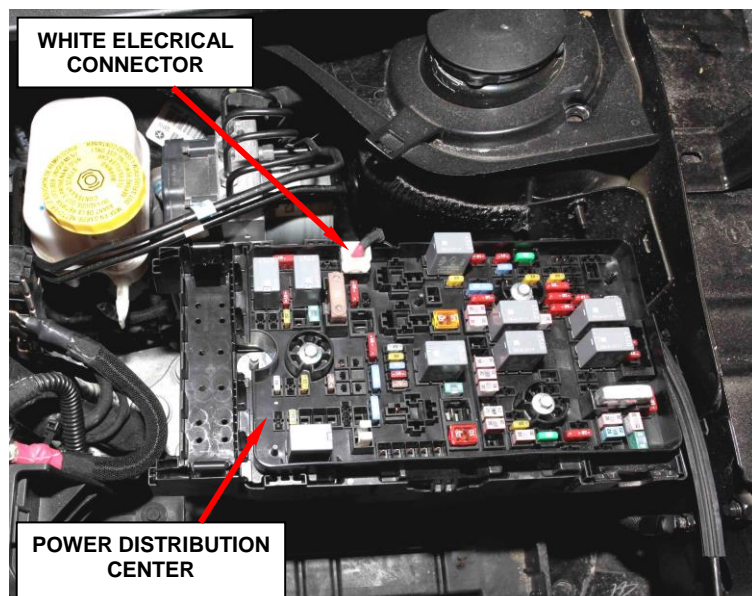

Figure 4 – White Electrical Connector
6. Disconnect the white electrical connector from the PDC (Figure 4).